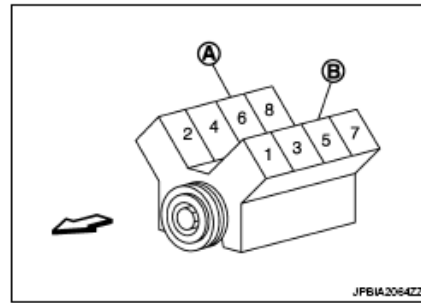

Fig. 7: Identifying Cylinder Number And Bank Layout
- For cylinder numbers and bank layout, refer to **Fig. 7**.